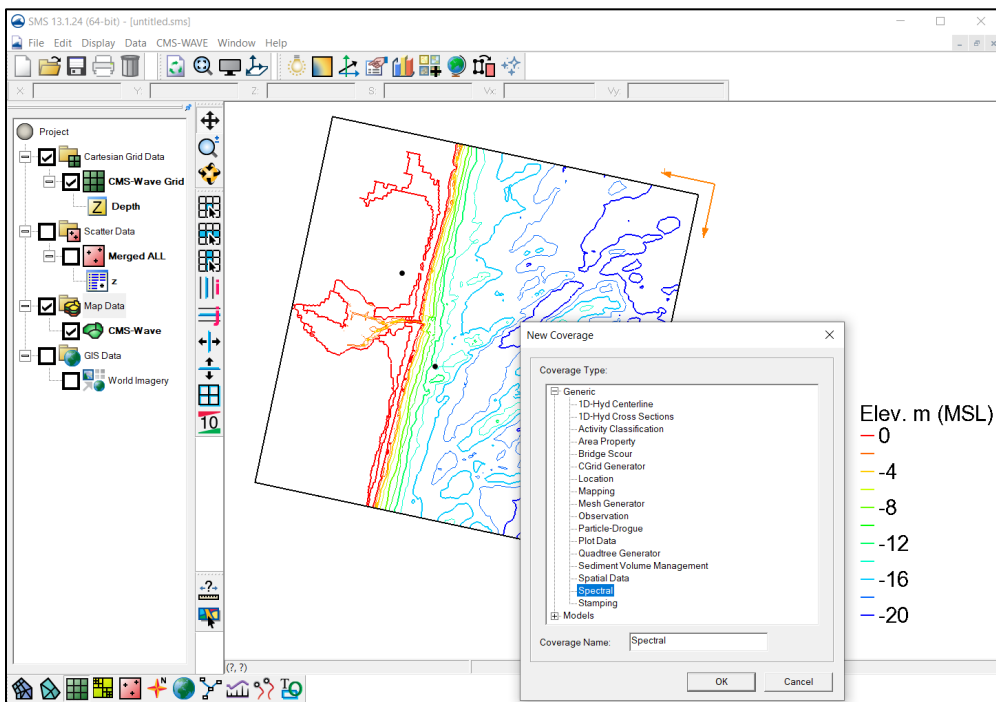

Figure 17. Display *Spectral Energy* dialog and *Spectral Grid Attributes*.
- Use **Select Feature Point**  tool, double-click on the node to bring up the *Spectral Energy* dialog (Figure 17).
- In the *Spectral Manager* section, click **Create Grid** to bring up the *Spectral Grid Attributes* dialog (Figure 17).